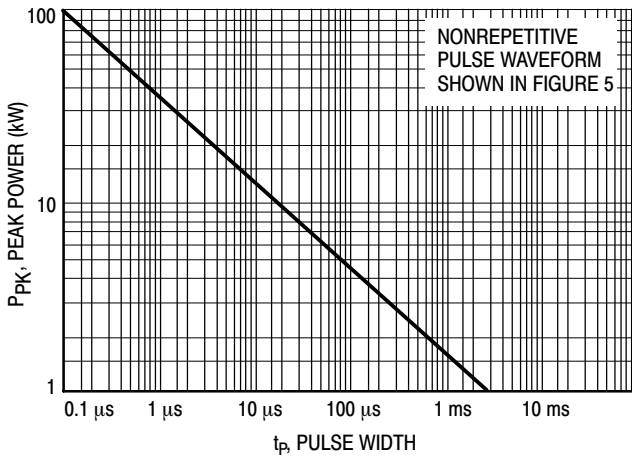
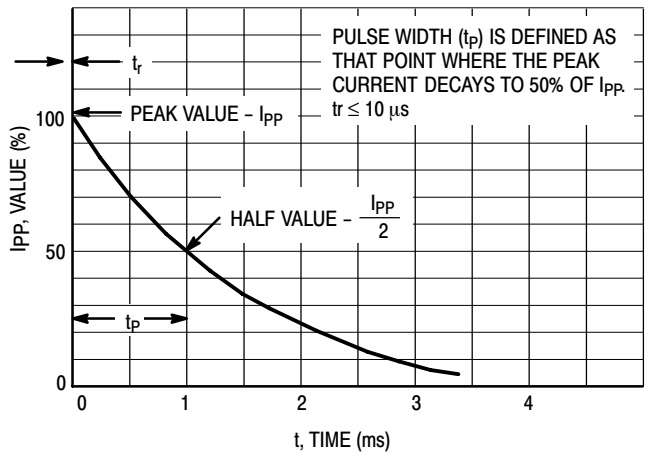
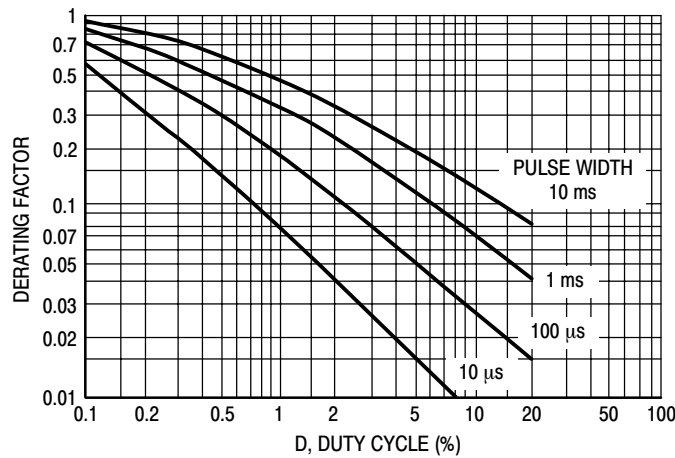

Figure 1. Pulse Rating Curve
Figure 5. Pulse Waveform
Figure 7. Typical Derating Factor for Duty Cycle
1. Nonrepetitive current pulse per Figure 5 and derated above $T_A = 25^\circ\text{C}$ per Figure 2.
7. Surge current waveform per Figure 5 and derate per Figures 1 and 2.
The data of Figure 1 applies for non-repetitive conditions and at a lead temperature of 25°C. If the duty cycle increases, the peak power must be reduced as indicated by the curves of Figure 7. Average power must be derated as the lead or
At first glance the derating curves of Figure 7 appear to be in error as the 10 ms pulse has a higher derating factor than
the 10 μs pulse. However, when the derating factor for a given pulse of Figure 7 is multiplied by the peak power value of Figure 1 for the same pulse, the results follow the expected trend.